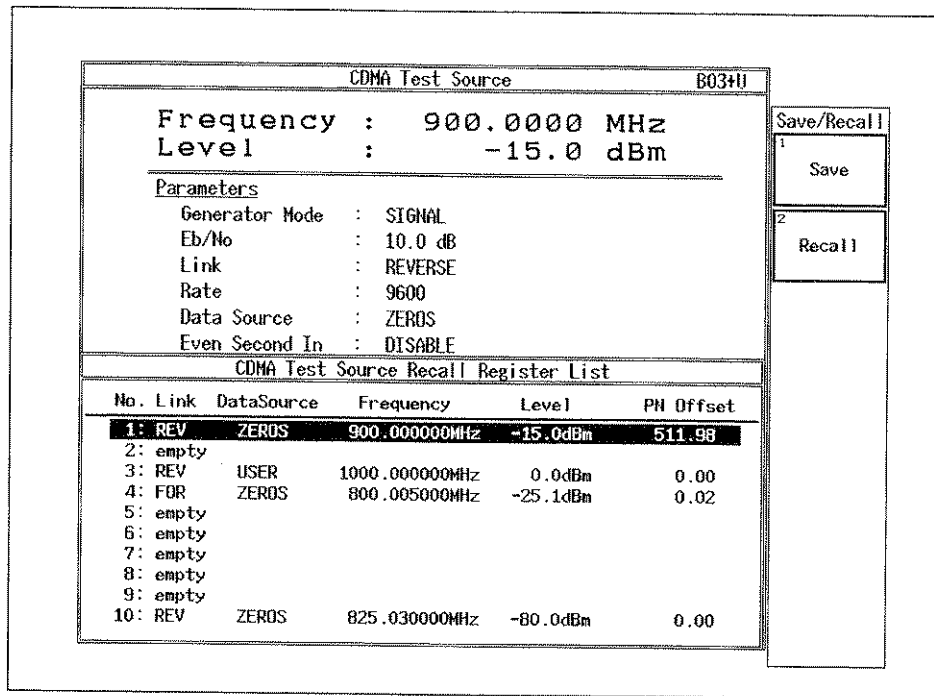

Figure 3-7 Save/Recall Screen
- (9) Save/Recall key
- (10) Save key
**{Save/Recall}** → **{Save}** : Activates the function of saving the current settings to R3561L backup memory. When this key is pressed, the R3561L backup memory content is displayed (see Figure 3-7). Select the file No. using the [DATA KNOB] key, and press the [DATA KNOB] or **[ENTER]** key to save the current settings. Maximum 10 settings can be stored in backup memory.
- (11) Recall key